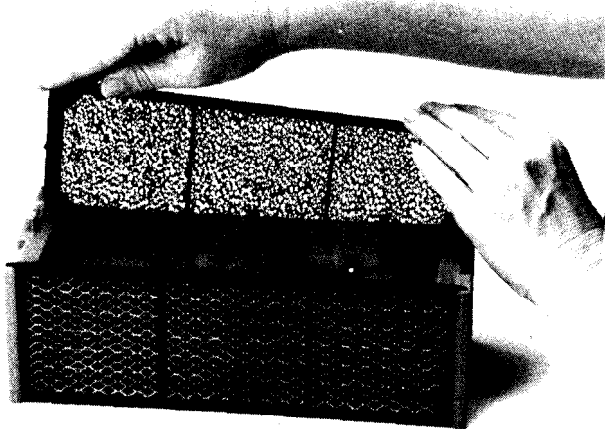

Figure 12
B. Slide the charcoal filter in the slots provided in the back of the cell (Figure 12).